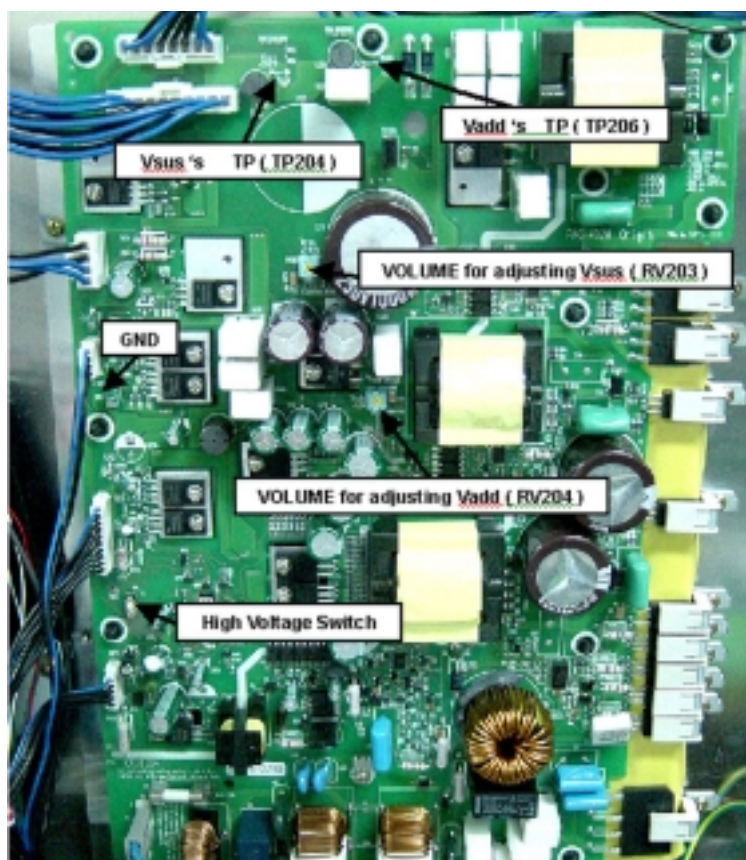

Fig. 4 Power Adjustment Points
- ◆ Adjusting TP : TP204 (See Fig. 4)
- ◆ Adjusting Location : RV203 (See Fig. 4)
- ◆ Adjusting TP : TP206 (See Fig. 4)
- ◆ Adjusting Location : RV204 (See Fig. 4)